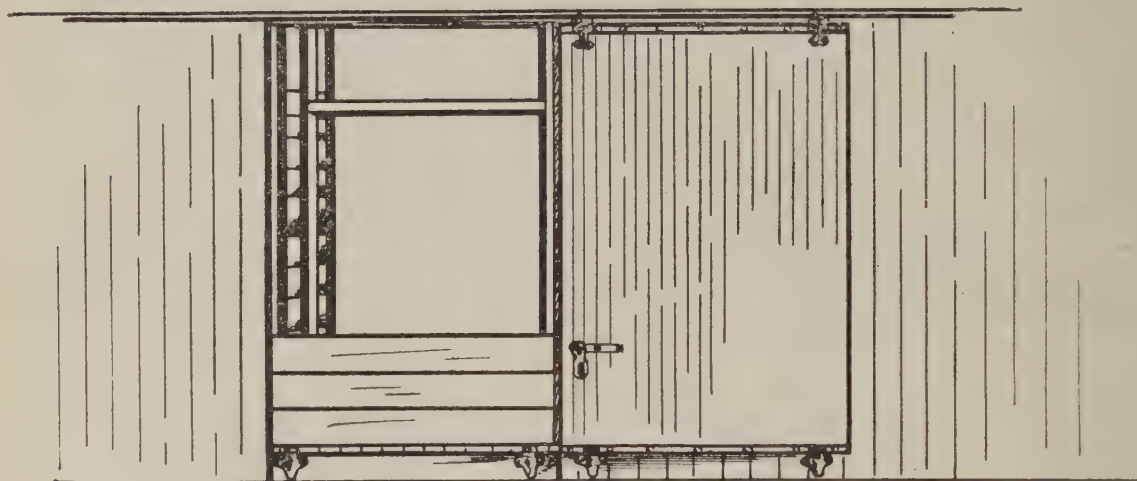

FIG. 14.—Wind boards to keep out cold winds.
21. Nail the 6 ft. lengths of 1 in. boards across each door, making a solid partition from the door sill up to 24 inches (fig. 14). Before the car is shipped, it is well to fill the space between the partition and the car door with sawdust or other filler when it is not necessary to open the car door in transit. This will tend to keep out cold winds.